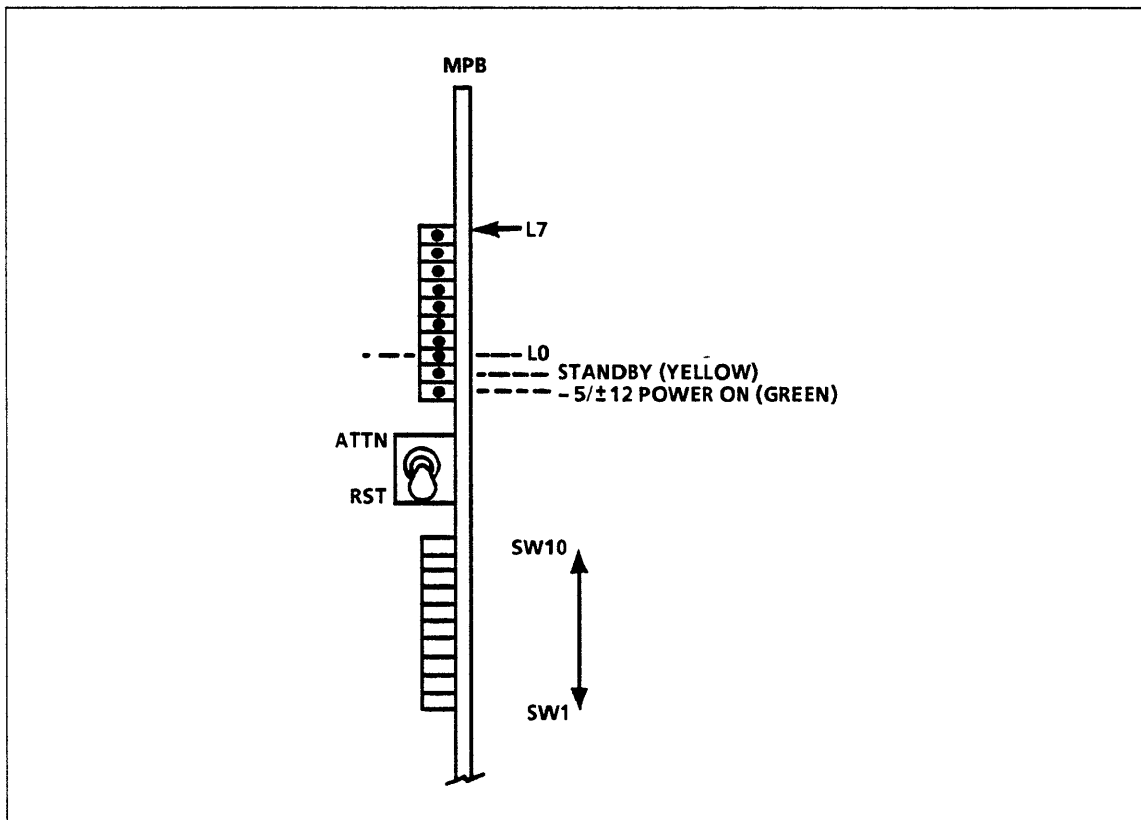

Figure 3-22. MPB Switch Settings for Entering System ID Manually
2. Turn on DI power. All indicators come on for 1 second (figure 3-22), then indicator 5 (7 is top indicator) flashes for about 10 seconds; disregard other indicators.